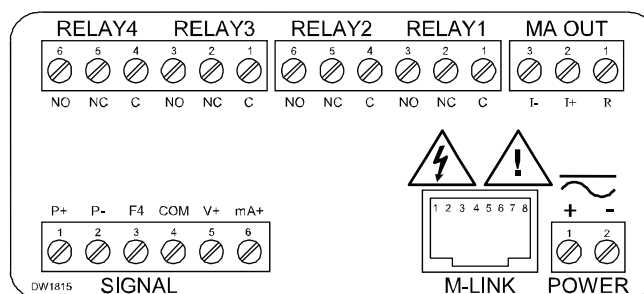

Figure 5: Connector Labeling for Fully Loaded PD6200
Power connections are made to a two-terminal connector labeled POWER on Figure 5. The meter will operate regardless of DC polarity connection. The + and - symbols are only a suggested wiring convention.
Signal connections are made to a six-terminal connector labeled SIGNAL on Figure 5. The COM (common) terminal is the return for the 4-20 mA and the ± 10 V input signals.
Serial communications connection is made to an RJ45 connector labeled M-LINK on Figure 5. For interfacing to the PROVu®, use the PDA1232 for RS-232 or the PDA1485 for RS-485. The same port is used for interfacing with all expansion modules (e.g. external relays, digital I/O).
Relay connections are made to two six-terminal connectors labeled RELAY1 – RELAY4 on Figure 5. Each relay's C terminal is common only to the normally open (NO) and normally closed (NC) contacts of the corresponding relay. The relays' C terminals should not be confused with the COM (common) terminal of the INPUT SIGNAL connector.